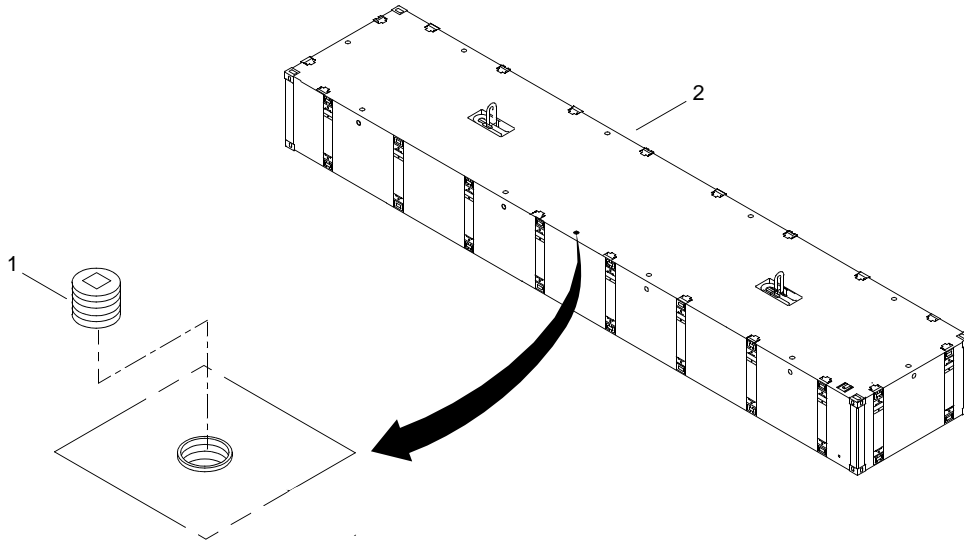

Figure 1. Center Module Drain Plugs
1. A drain plug (figure 1, item 1) is located over each of three internal compartments of the center modules (figure 1, item 2).